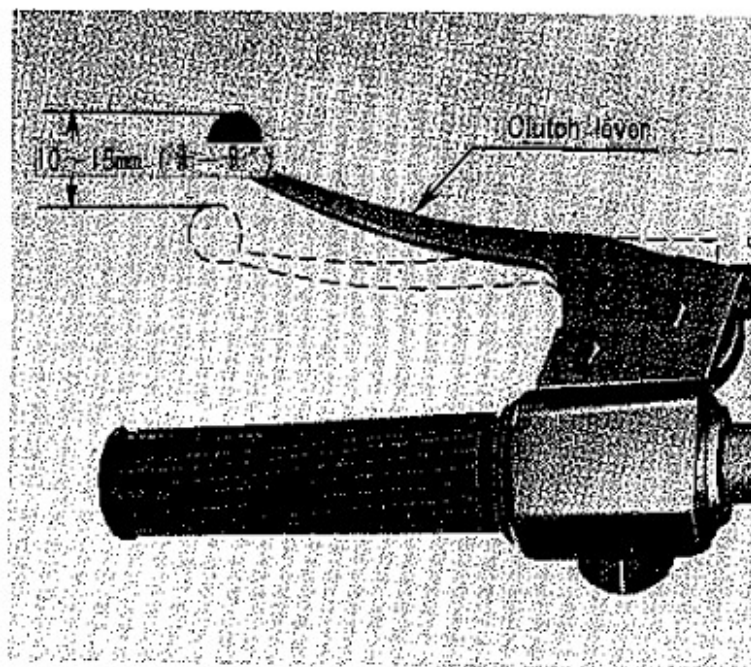

Fig. 11
- a) When properly adjusted, there will be approximately 10-15 mm (3/8"-5/8") free play in the clutch control before the clutch disengages (Fig. 11).